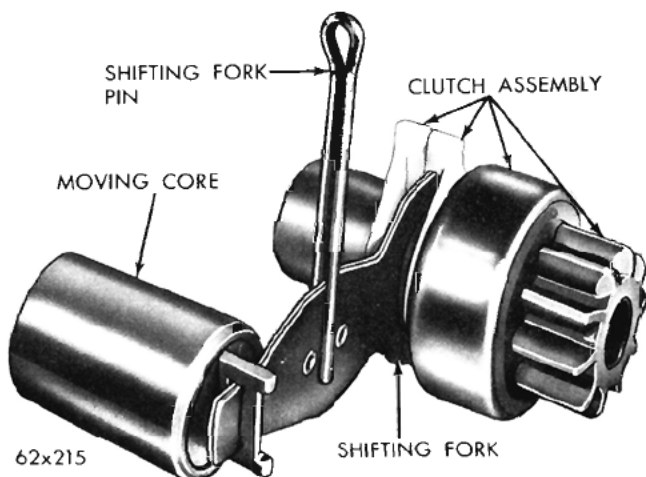

Fig. 19—Shifter Fork and Clutch Arrangement
(5) Complete the installation of the pinion shaft engaging the shifting fork with the clutch actuators. Figure 19 shows the correct relation of the parts at assembly.